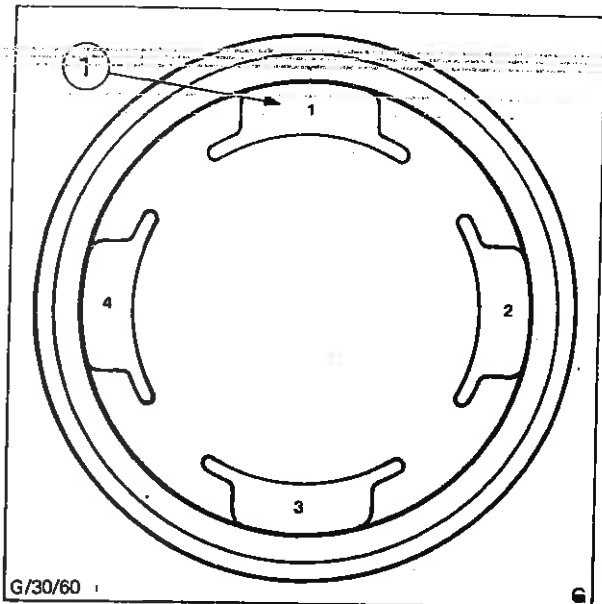

Fig. 20 - Position of Poleshoes in Yoke
2. Fit the new windings into the yoke and replace the poleshoes. Concentricity is achieved by machining the poleshoes and the poleshoes must be replaced in their original positions, otherwise they may foul the armature. As an aid to correct assembly, the poleshoes are numbered and must be replaced in the positions shown in Fig. 20.